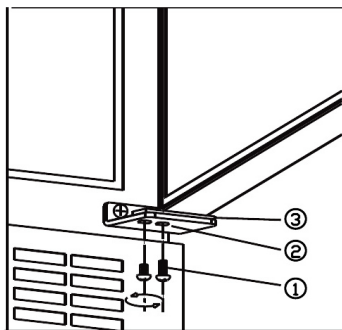

fig. 6.1
- Dismount the screws (1) SUPPORT THE DOOR! See fig. 6.1